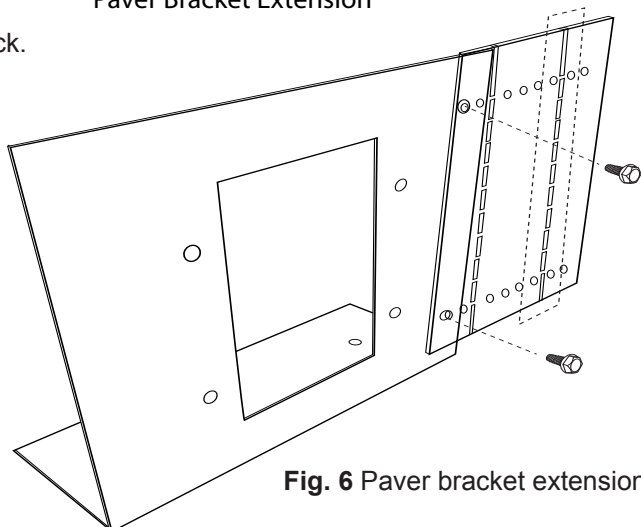

Fig. 6 Paver bracket extension.
Step 6: Install the cover plate overtop of the ESTOP gas timer. Align the holes in the cover plate with the holes in the ESTOP gas timer (top and bottom) and install the two (2) mounting screws (#10-24 x 1/2" stainless steel screws) to secure the cover plate as shown in Figs. 6 and 7.